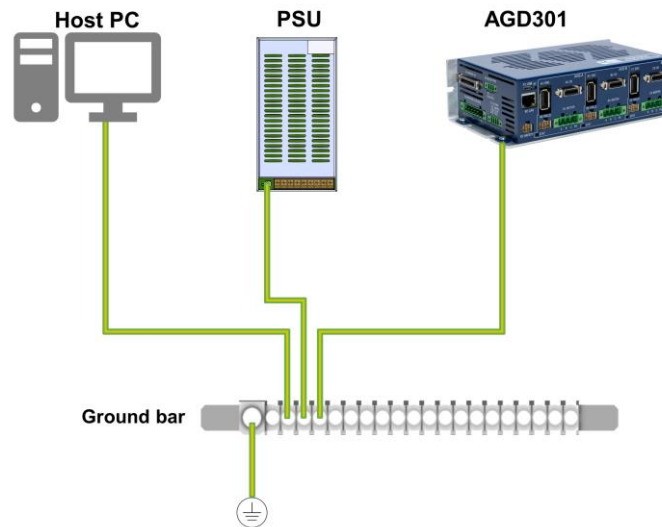

Figure 6. System grounding
- The AGD301 must be connected to protective earth (PE) and connected to the building's ground. PE is protected with an earth-leakage circuit breaker (ELCB); hence it is safe to touch. Refer to Figure 6.